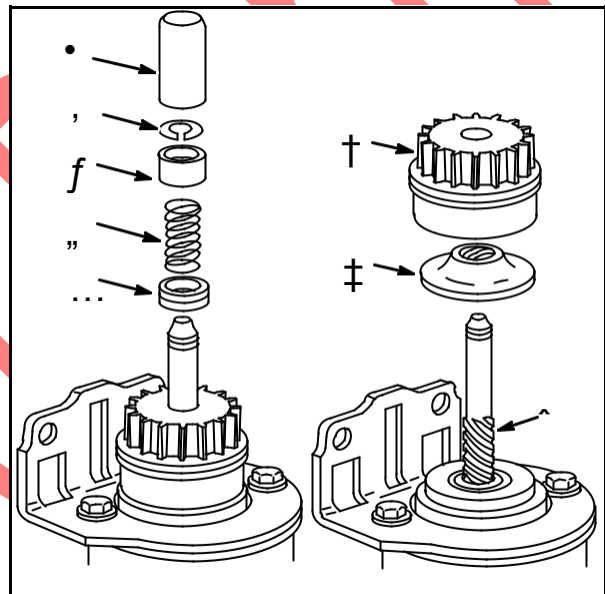

Fig. 12
Grasp end of rubber dust cover (1) and pull to remove, **Fig. 12**.